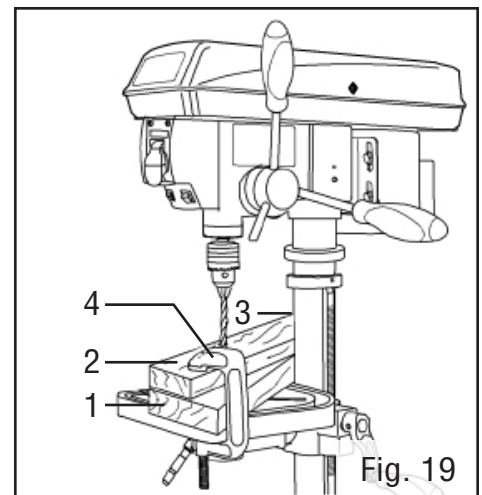

Fig. 19
## DRILL PRESS ON / OFF SWITCH (FIG. 19)
1. To turn the drill press ON, insert the yellow safety key (Fig. 19 - 1) into the switch housing (Fig. 19 - 2). As a safety feature, the switch cannot be turned ON without the safety key.
4. To lock the switch in the OFF position, remove the safety key (Fig. 19 - 1) from the switch. Store the safety key in a safe place away from the reach of children.
## LIGHT & LASER LINE ON/OFF SWITCHES (FIG. 19)
The light switch (Fig. 19 - 3) is located on the lamp cover.
The laser switch (Fig. 19 - 4) is located below the ON/OFF switch on the right.